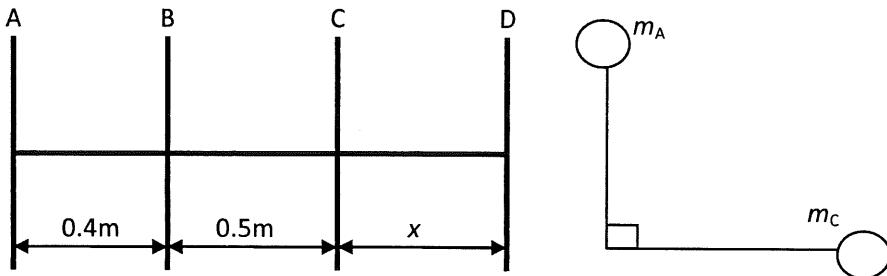

Figure 2
- c) A rotating shaft at constant angular velocity carries four masses, A, B, C and D, rigidly attached to it as shown in Figure 2 and the centers of mass are at 30 mm, 36 mm, 39 mm and 33 mm respectively from the axis of rotation. The mass of A, C and D are 7.5 kg, 5 kg and 4 kg. The axial distance between A and B is 400 mm and that between B and C is 500 mm. The eccentricities of A and C are 90° to one another and B is starting point. If the system is fully balanced, **determine**